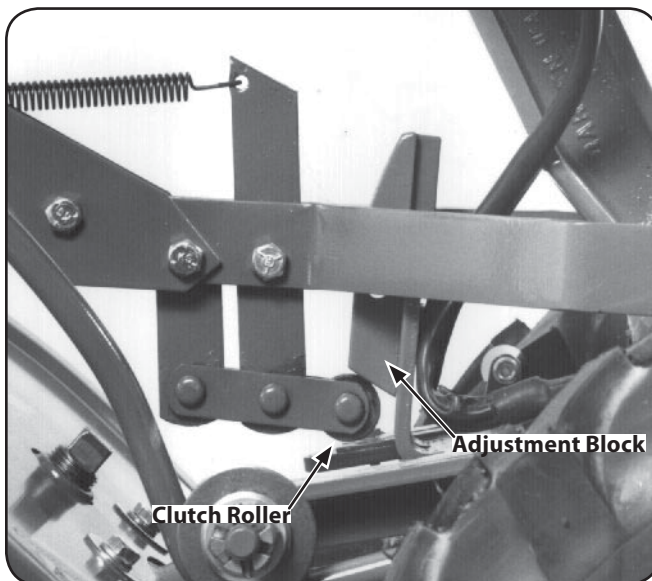

Figure 3-11
7. Test the operation of the Wheels/Tines/PTO Lever. Push the lever down until it engages in the Forward position. The clutch roller must rest beneath the adjustment block. Next, move the lever up to the Neutral position. See Fig. 3-11.